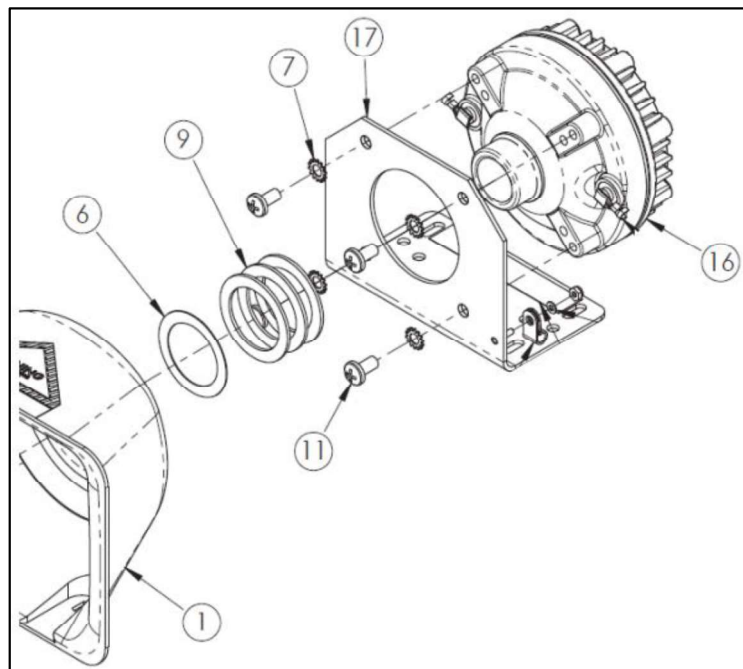

Figure 2
- 2.1.2 Referencing Figure 2, remove bell (Item #1). Retain fiber washer (Item #6) and steel washers (Item #9) for re-assembly noting the order they were removed. Remove and discard screws (Item #11) and lock washers (Item #7). Rest speaker driver (Item #16) in place as it will be detached from the mounting bracket (Item #17).